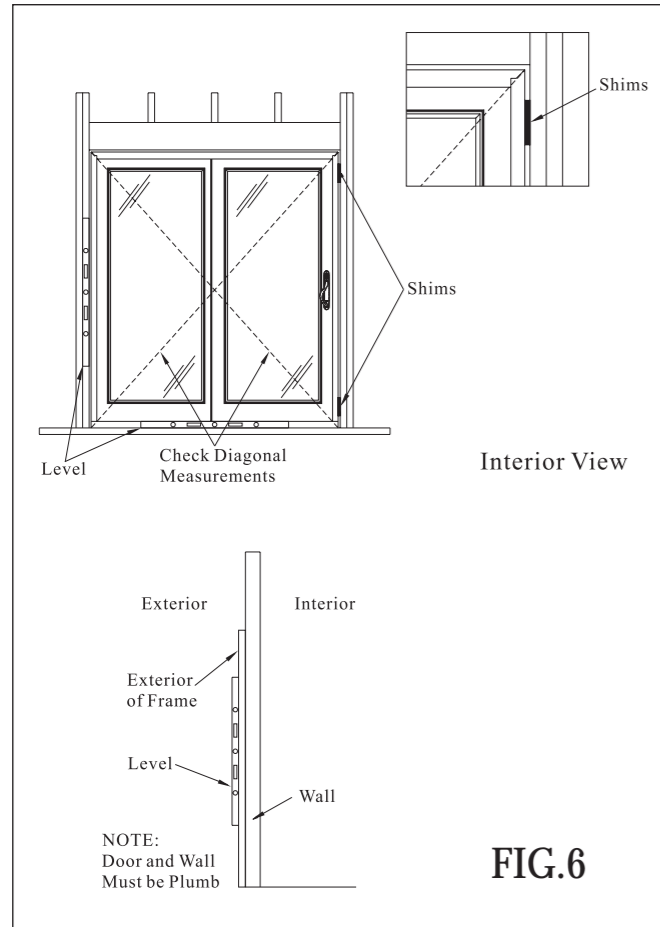

FIG. 6
8. Use level to check if the jambs are straight and plumb. The sill must be leveled and straight. Make sure the diagonal measurements of the entire frame are equal. If necessary, shim the corners 8" from the sill and head jamb. (See Fig.6)